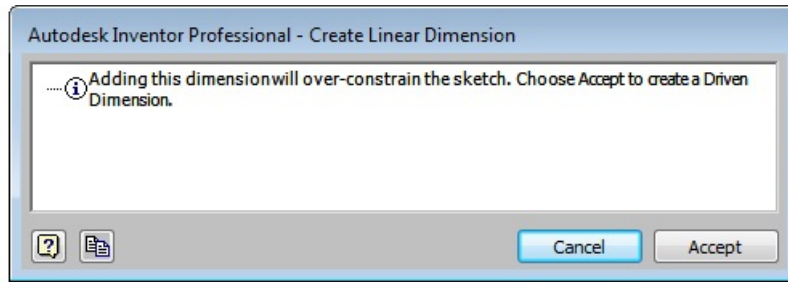
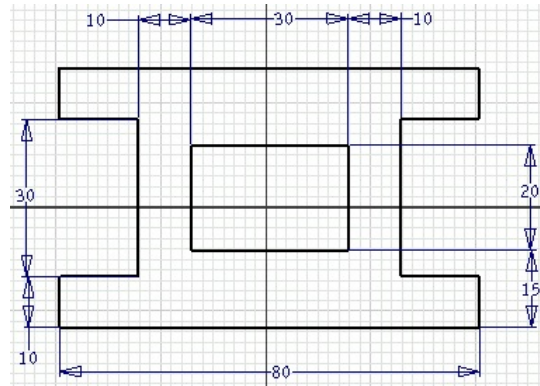

Figure 3-50 *The Autodesk Inventor Professional message box*
Figure 3-51 Sketch after adding dimensions
- Add the required constraints and dimensions to complete the sketch, refer to Figure 3-51.
With this step, you have applied all the required constraints and dimensions to the sketch. Now the sketch is ready to be converted into a feature. If you try to add more constraints or dimensions to this sketch, the Autodesk Inventor Professional - Create Linear Dimension error message box will appear, informing that adding this dimension will overconstrain the sketch, see Figure 3-50. If you still want this dimension to be displayed, choose the Accept button from this message box; the dimension will be added as a driven dimension. A driven dimension is placed inside parentheses and is not used during the manufacturing process. This dimension is used only for reference. Note that you cannot edit the value of a driven dimension. The sketch after applying all the dimensions and constraints should look similar to the one shown in Figure 3-51.